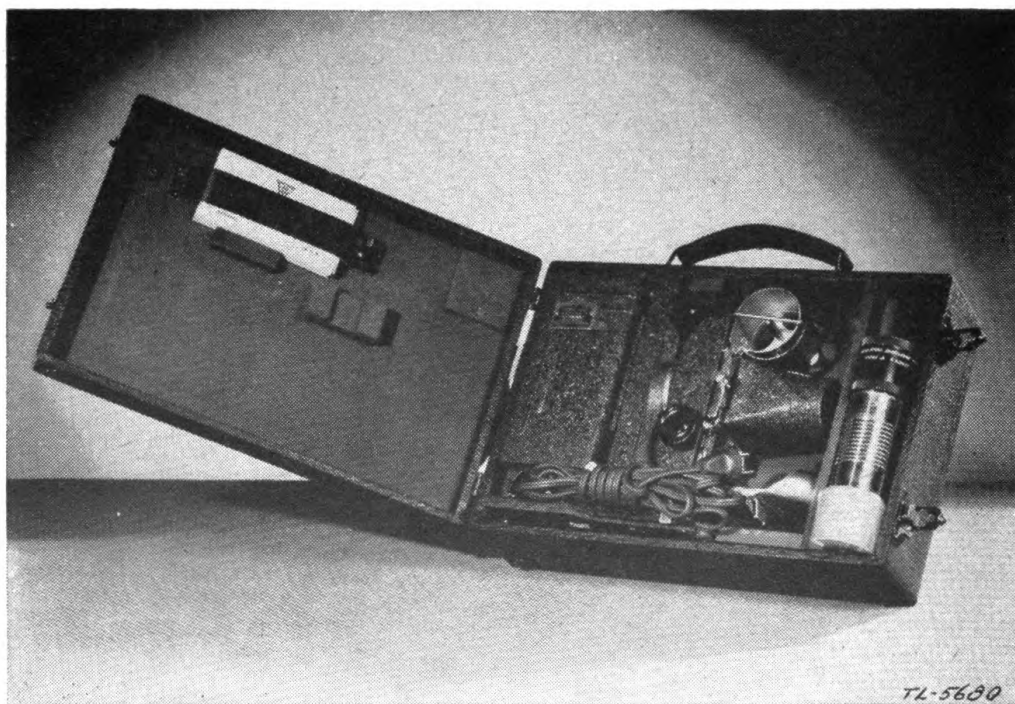

FIGURE 68.—Projector PH-222—encased.
19. Setting up for operation.—*a.* Projector PH-222 is issued complete in a single case (fig. 68).